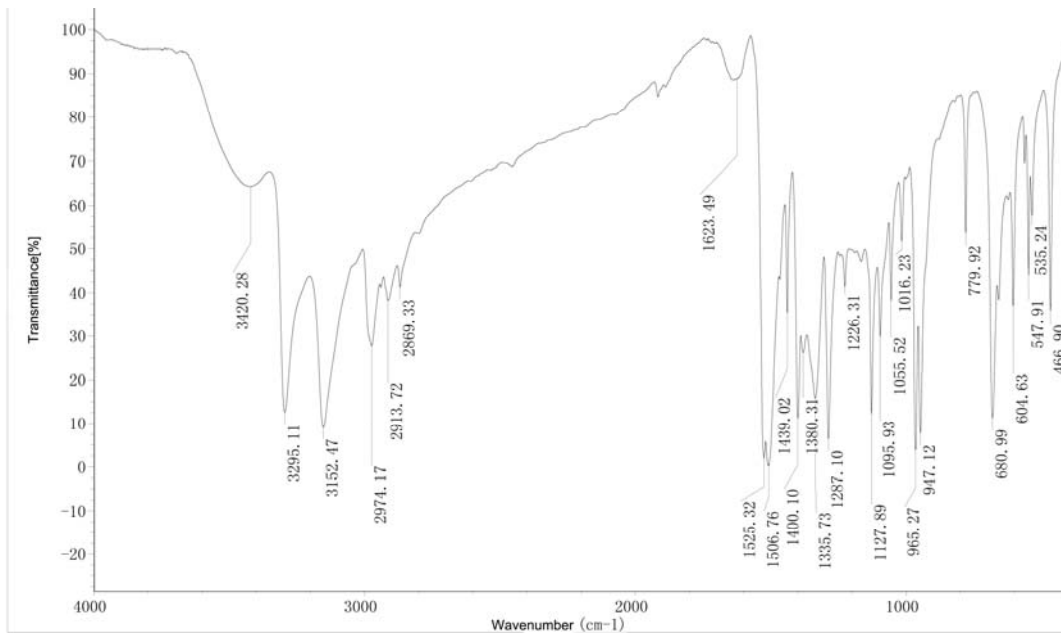

Fig. 3 Infrared spectra of Mancozeb
2.2 Infrared. Prepare potassium bromide discs from the sample and from mancozeb standard using 0.7 mg material and 400 mg of potassium bromide. Scan the discs from 4000 to 400 cm^{-1} . The spectrum produced from the sample should not differ significantly from that of the standard (Fig. 3).